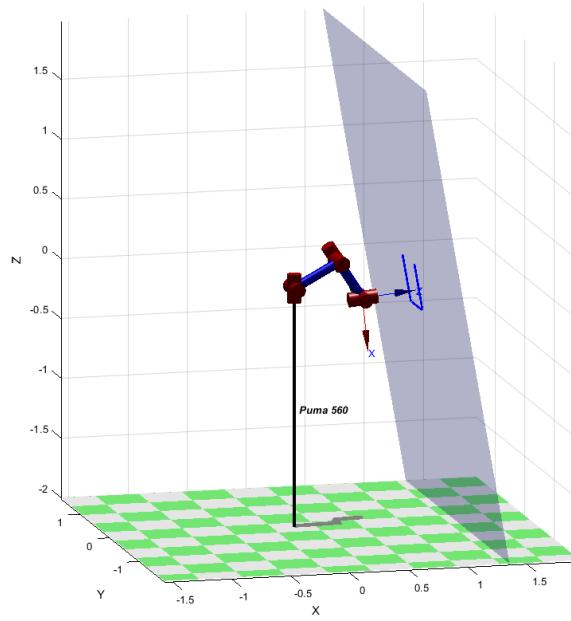

Figure 5: Example trajectory for the manipulator on the inclined wall
- Design the trajectory that moves the pen along the wall and draws the first letter of your last name for the wall parallel on the inclined wall. You will use the code inside the Task 3 folder and only need to execute the file “run_inclined.m”. Example trajectory for the manipulator is shown in Figure 5.